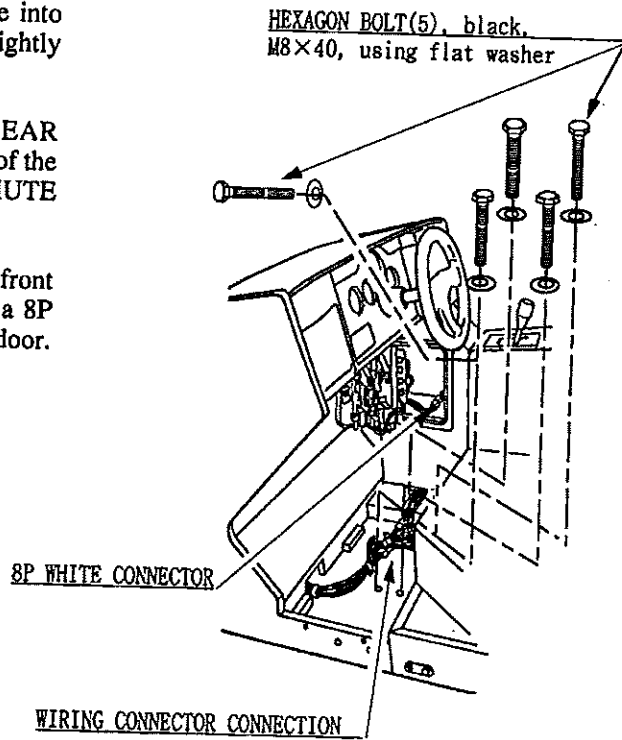

FIG. 6. 4
- ⑤ Insert the REAR CABI's square pipe into the FRONT CABI's square hole and tightly put both cabinets together.
- ⑥ Connect the FRONT CABI and REAR CABI with 5 hexagon bolts. Use one of the bolts for the inside of the COIN CHUTE DOOR.
- ⑦ Connect the wiring connectors for the front cabi and rear cabi. Note that there's a 8P white connector inside the coin chute door. (FIG. 6. 4)